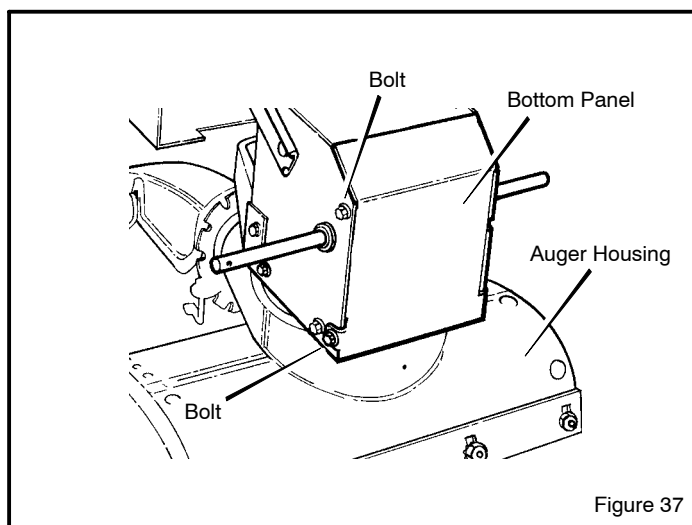

Figure 37
2. Loosen the **bolts** on each side of the **bottom panel** (see Figure 37).
12. Install the **bottom panel** (see Figure 37).